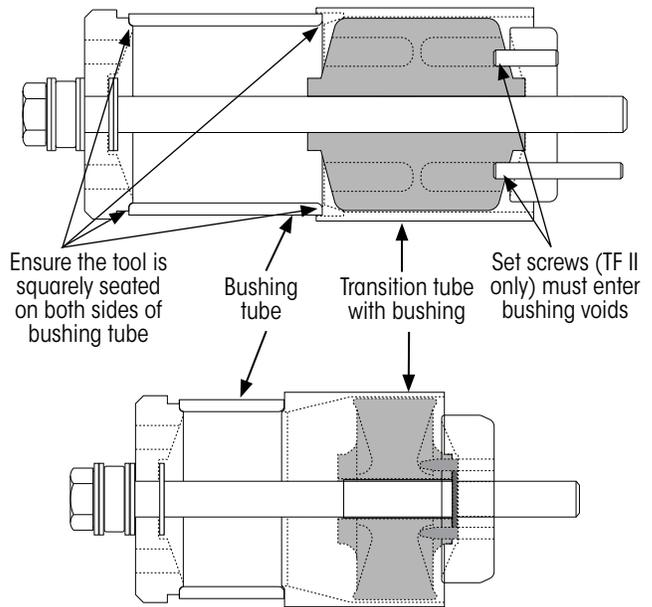

Figure 38: Ensure tool is square on both sides of bushing tube
3. Slide the transition tube and bushing assembly onto the hex head bolt and position it to be squarely seated against the bushing tube as shown in Figure 38.